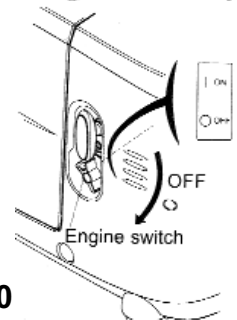

fig. 10
3.6.2 Turn the engine switch to the OFF position. Refer to fig. 10.